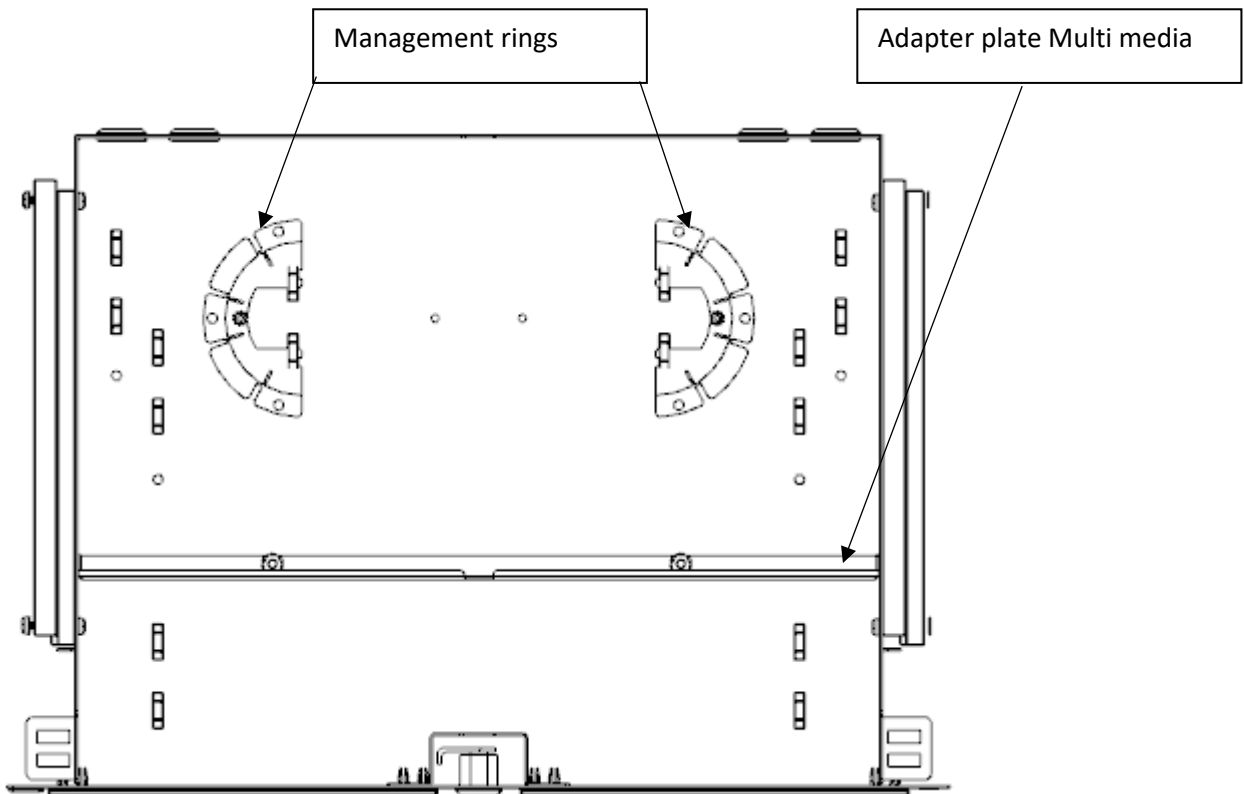

Fig.2
3.0.2 Installation of cable management rings & Adapter plate multi media panel(Fig. 2)